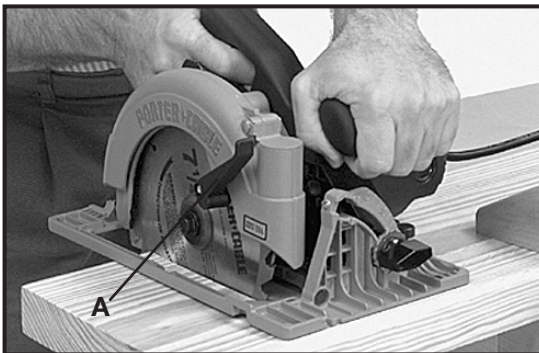

Fig. 14
⚠ WARNING It is important to support the work properly and to hold the saw firmly to prevent loss of control which could cause personal injury. Fig. 14 illustrates proper hand support of the saw.
Clamp work on a rigid support such as a bench or saw horses. See Fig. 14. Mark the line of cut on the work. Be sure cut-off line is beyond end of support to the right only enough to allow proper operation of the telescoping guard. Place front edge of saw squarely on work before starting motor. Sight the cutting line with the line-of-cut indicator Fig. 9. Back saw up slightly and start motor. Move saw forward keeping the edge of line indicator parallel to line of cut.
⚠ WARNING Keep the cord away from cutting area, so it does not get hung up in the work being cut. See Fig. 14.
Cutting directly across the grain of a piece of lumber is called crosscutting. Fig. 14 illustrates a crosscut operation. Position the work so that the cut will be on the right, as shown.
⚠ WARNING Use the lever (A) Fig. 14, provided on the telescoping guard when you have to retract the telescoping guard manually.